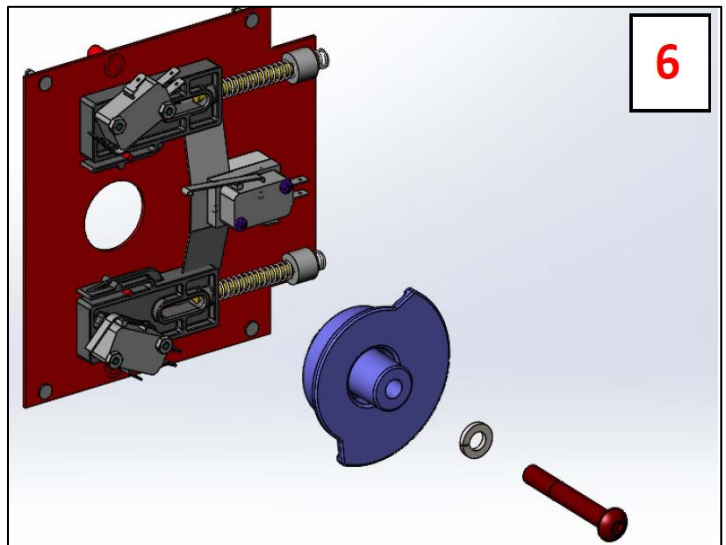

Figure 6: Remove CAM, Screw, and Washer
8. Using an Allen wrench or 3/16 inch hex driver, unfasten the screw then remove the CAM shown in **Figure 6**. Discard the screw, CAM, and washer.